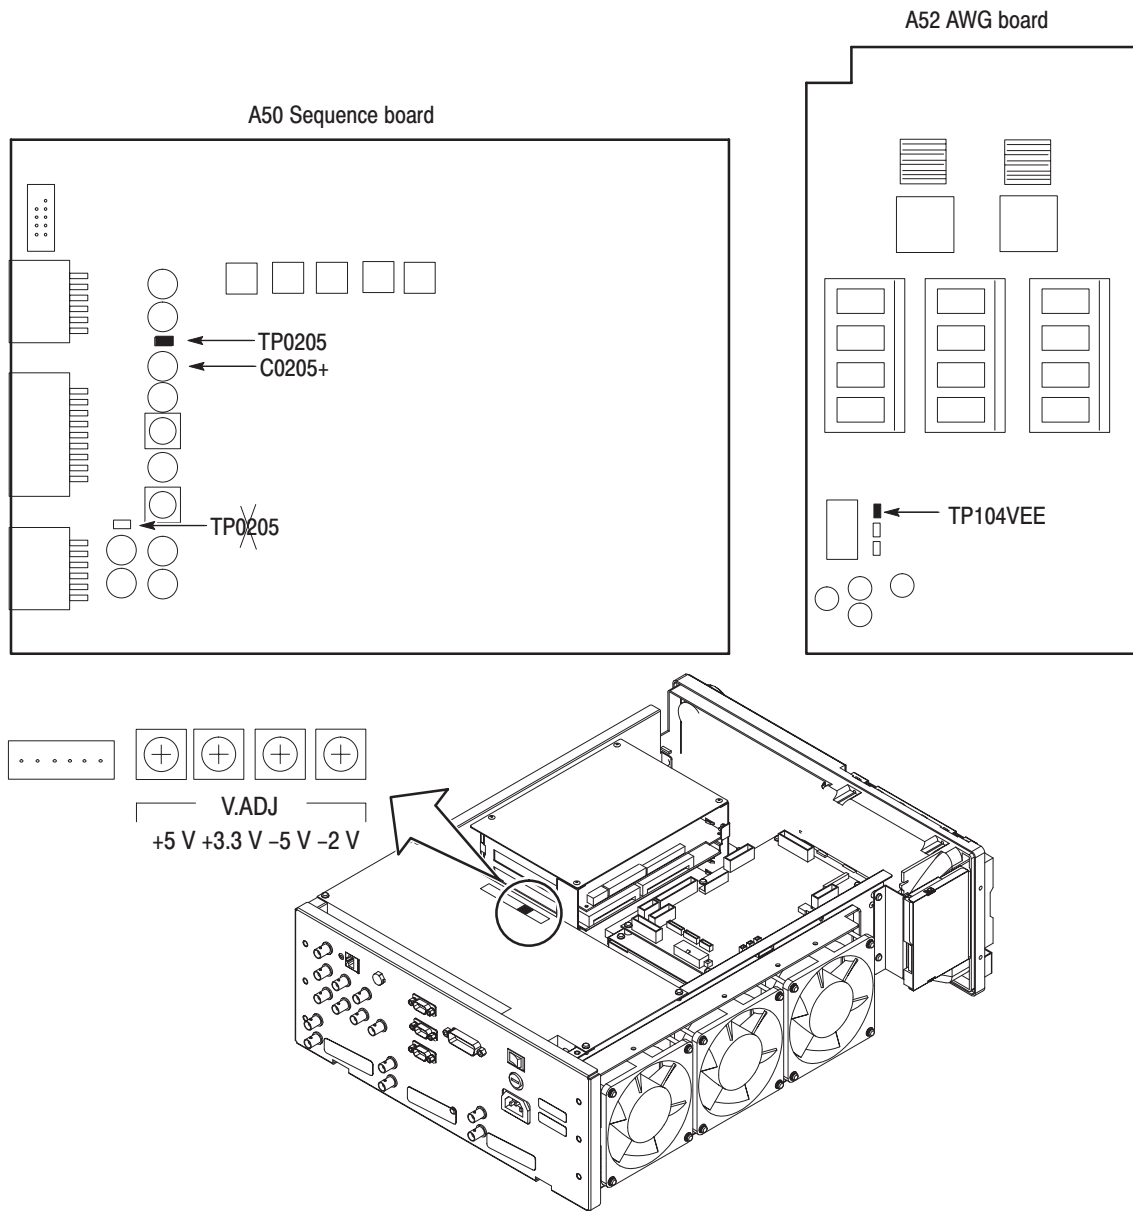

Figure 5-3: Adjustment location for the power supply unit
1. *Adjust the voltage level:* Adjust -5 V pod on the power supply unit so that TP0205 (VEE) on the A50 Sequence board is -5.30 V \pm 0.02 V. See Figure 5-3.